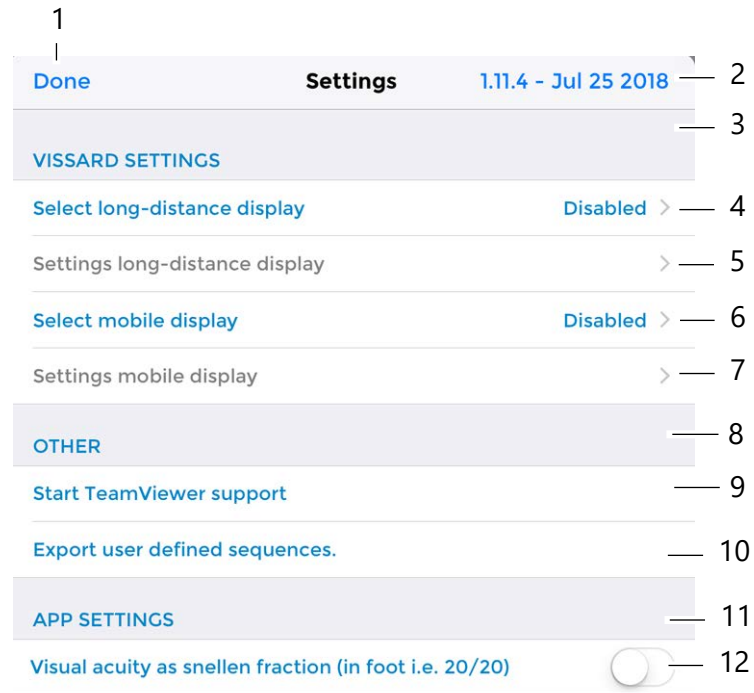

Fig. 8-3: "Settings" display
- ➔ Tap on the [Done] button (1). The settings are saved. You are returned to the Vissard program.
- ➔ Tap on "Select long-distance display" [>] to open the list of available long-distance displays (*fig. 8-3, page 33, item 4*).
➔ Tap on "Long-distance display" [>] (fig. 8-3, page 33, item 5). The following display appears.